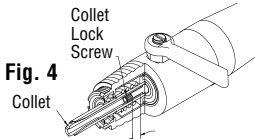

Fig. 4
5. When reinstalling a collet or installing a new collet, the collet lock screw must be in the collet before you screw the collet into the spindle – Fig. 5. The collet lock screw must be threaded into the collet to a depth of approximately 5mm, (3/16") from the back end of the collet – Fig. 4.